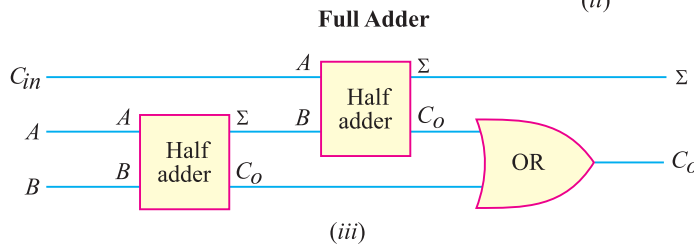

Fig. 26.58
(ii) **Full Adder (FA).** A full adder adds two binary bits plus a carry input (C_{in}) to produce the sum (Σ) and carry (C_o) outputs. Fig. 26.58 (i) shows the block diagram of a full adder. It is formed by using two half adder circuits and an OR gate as shown in Fig. 26.58 (iii). Note the carry-in input which requires the extra half adder. The output of the OR gate forms the carry-out (C_o) output.
The full adder has three inputs : C_{in} , A and B . These three inputs must be added to get the Σ and C_o outputs. Fig. 26.58 (ii) shows the truth table for a full adder. It shows all the possible combinations of A , B and C_{in} . The full adder is used for binary addition in all places except the 1s place which means 2s, 4s, 8s etc.